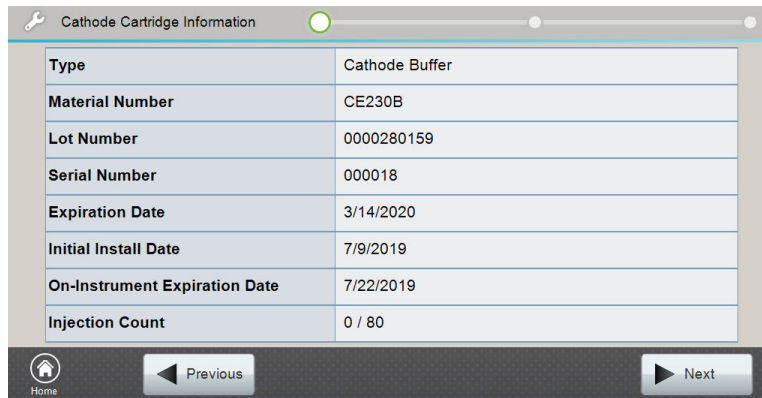

Figure 23. 'Cathode Cartridge Information' screen.
6. Use the Barcode Scanner connected to the Spectrum CE Compact System to read the barcode label on the Spectrum Compact CBC. After reading the bar code, information about the Spectrum Compact CBC being installed is displayed on the 'Cathode Cartridge Information' screen (Figure 23).